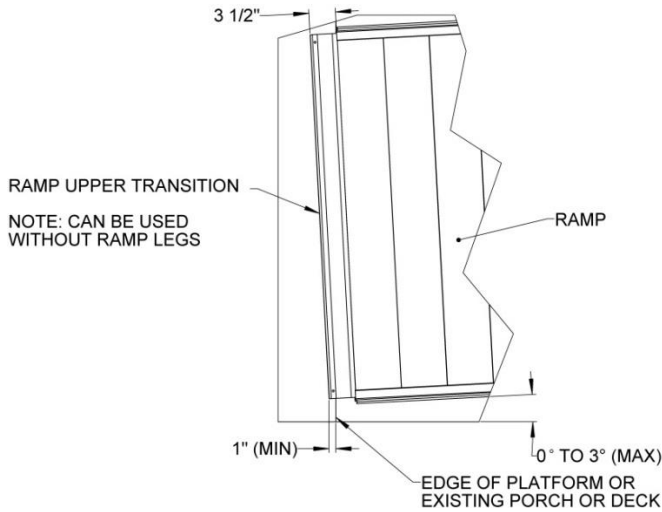

FIG. 3.17
- 3.7.1. Angles up to approximately 3° can be accommodated using the PRUT (RAMP UPPER TRANSITION) as long as the PRUT (RAMP UPPER TRANSITION) overlaps the surface of the platform, porch or deck by at least 1" (FIG. 3.17).